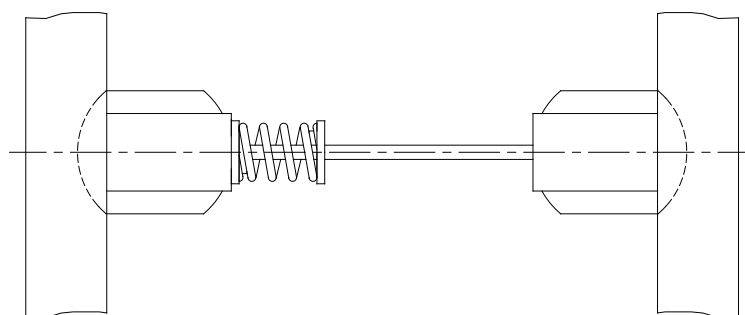

Figure 3.1
3.2.2 Align gage on specimen surface with help of two short pieces of drafting tape across lower portion of foil tabs of the gage assembly as shown in figure 3.1.